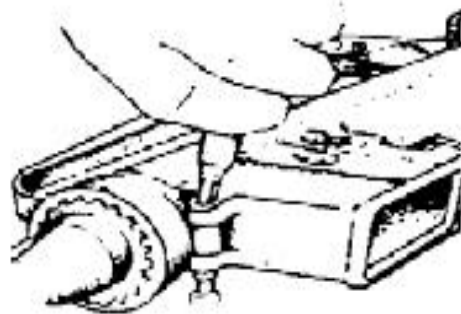

Figure E-7. Pushing the receiver pivot pin.
- e. Push the receiver pivot pin (figure E-7)